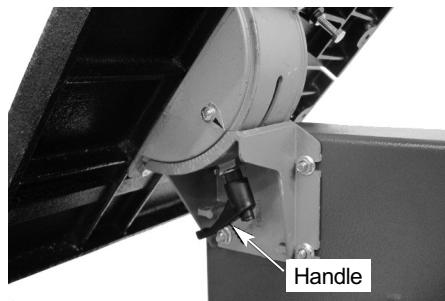

Figure 19 - Tilting the table.
Refer to Figure 19.
1. To tilt the table, loosen the handle on the table trunnion, set the table to the required angle and tighten the handle again (see Figure 19).